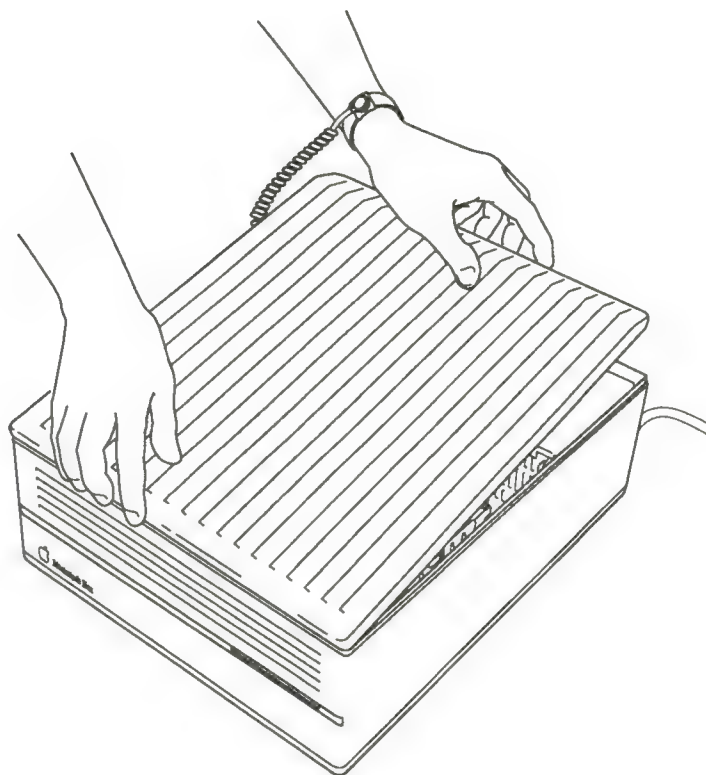

Figure 26. Replacing the Macintosh IICx lid
- a. Tip the front of the lid down onto the front edge of the computer case, as shown in Figure 26.